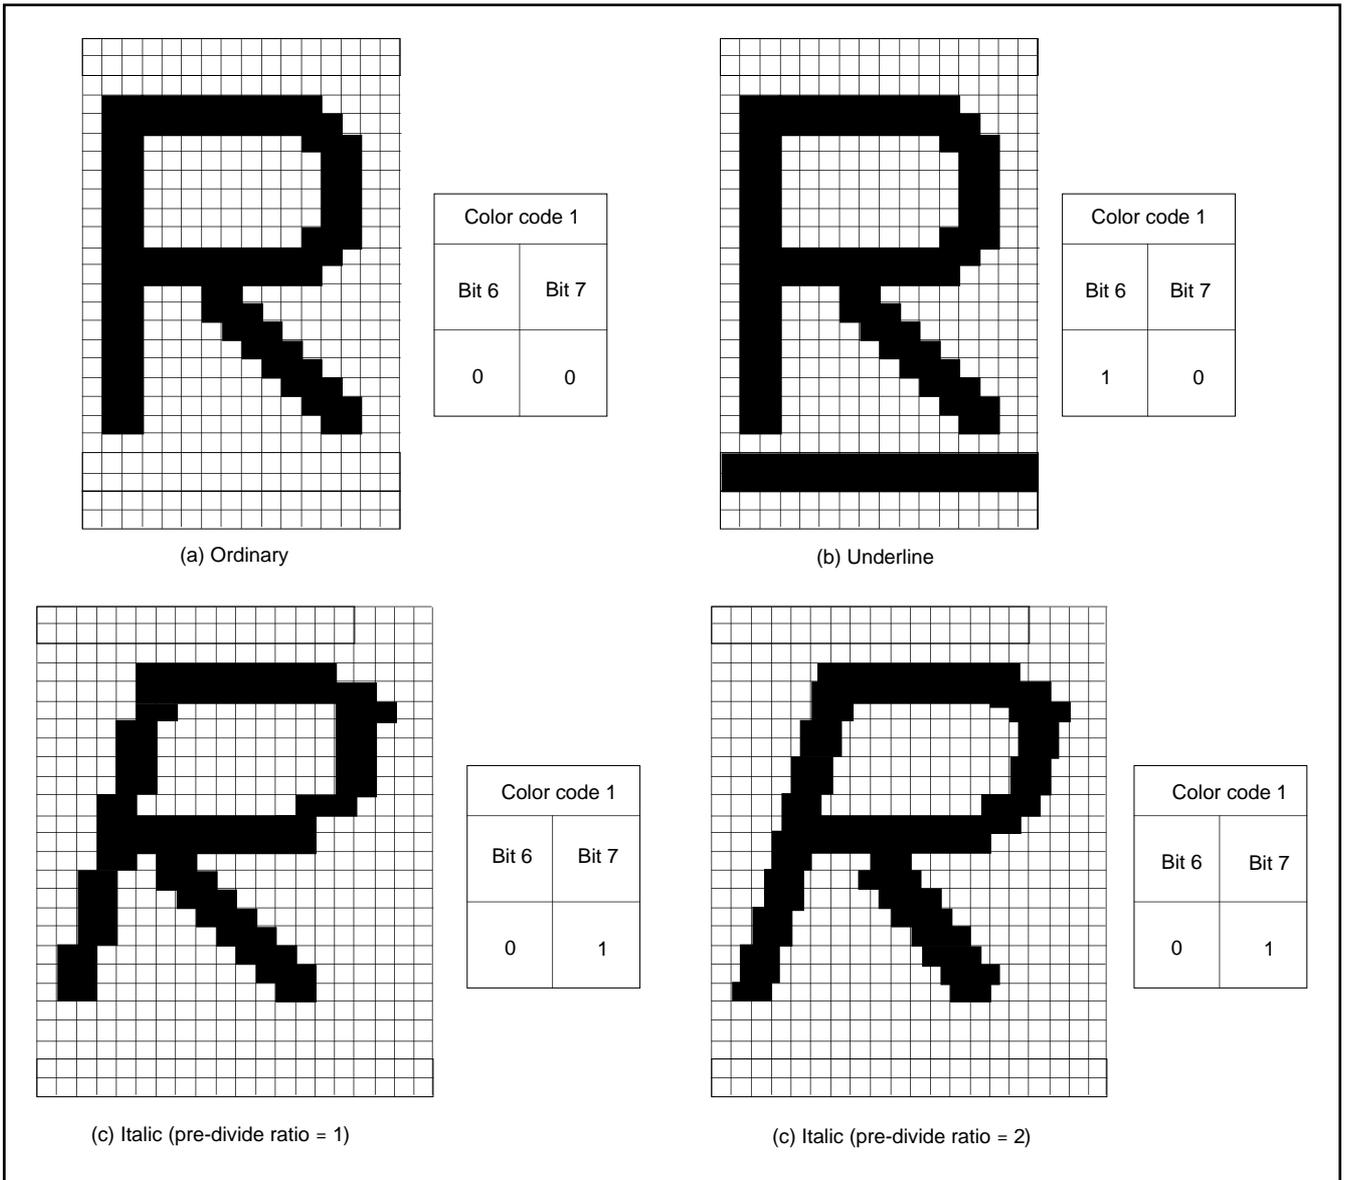

Fig. 68. Example of attribute display (in CC mode)
- 2:** When the pre-divide ratio = 1, the italic character with slant of 1 dot X 5 steps is displayed (refer to Figure 68 (c)). When the pre-divide ratio = 2, the italic character with slant of 1/2 dot X 10 steps is displayed (refer to Figure 68 (d)).